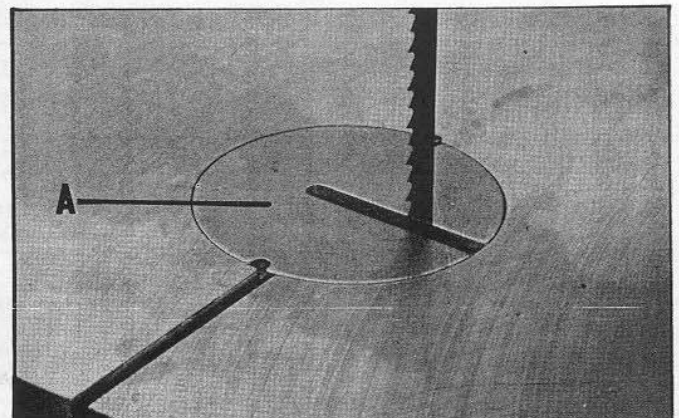

Fig. 10
Place table insert (A) Fig. 10, in the hole provided in the table making sure the pin in the table engages one of the indents in the table insert.